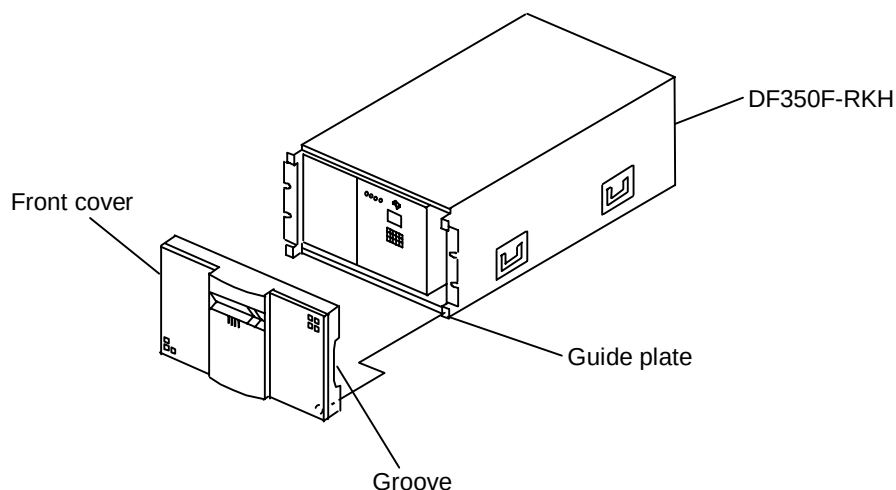

Figure 2.4.2 Removing and Installing the Front Cover
- (1) Secure the subsystem at four places using the ⑥ Binding screws (M5 × 16).
- (2) Reinstall the front cover by pressing it against the subsystem. (See Figure 2.4.2.)